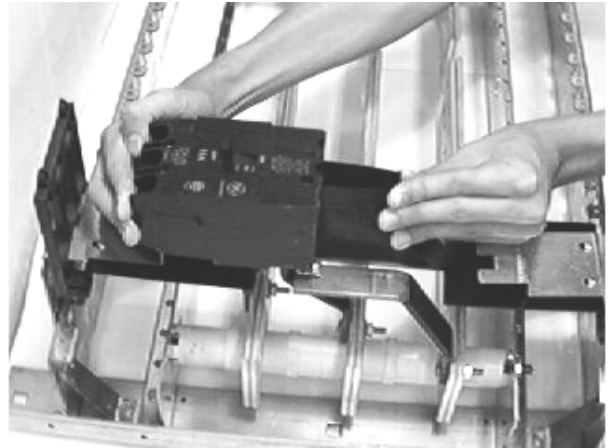

Figure 4. Installing the breaker with the B-phase isolator.
6. Install the circuit breakers. Position the breakers so that the line- or ON-side terminals rest on the straps. Fold the isolator flaps upward and insert them into the opposing grooves in the breaker housing between the phases, as shown in Figure 4. Secure the captive screws in the breaker terminals to the corresponding threaded holes in the straps and tighten to 35 in-lb. (The straps may require minor adjustments to obtain proper hole alignment.) For each breaker, slide the upper breaker mounting bracket until the steel flange on the underside of the breaker housing is fully engaged with the toothed section of the bracket, then tighten the bracket mounting screws to 18 in-lb.